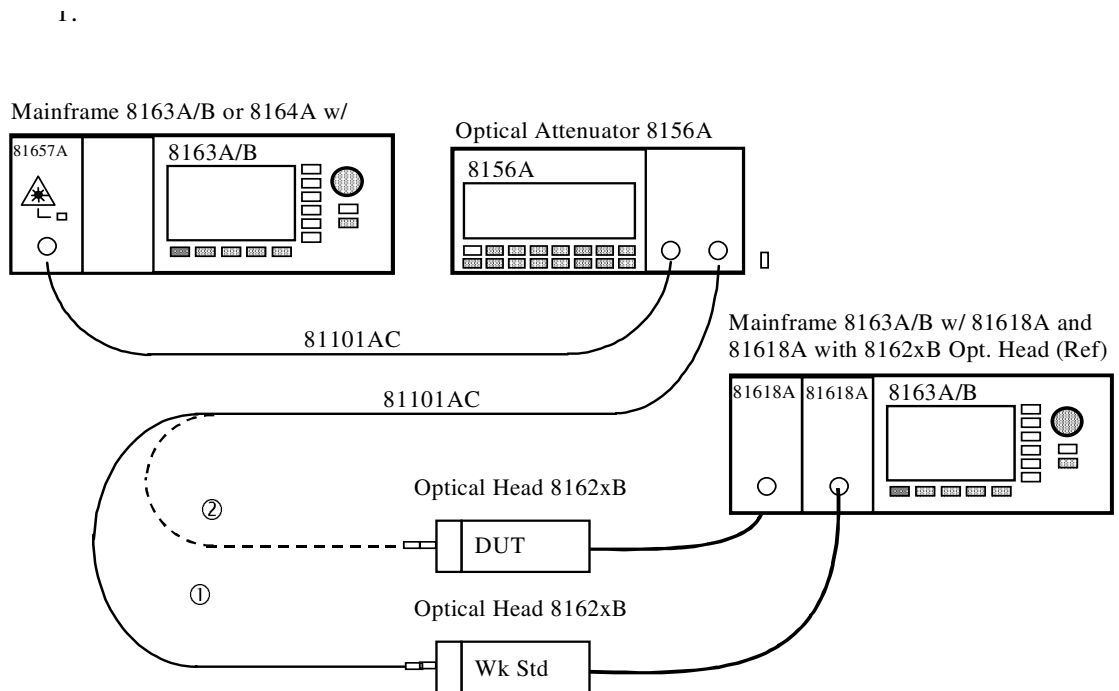

Figure 10 Accuracy Test Setup
- 2 Connect the equipment as shown in Figure 10.